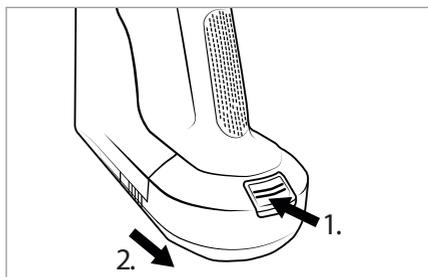

Fig. 13
- ◆ To remove the battery **2** from the appliance, press and hold the battery release button **1** and pull the battery **2** out of the appliance (see Fig. 13).